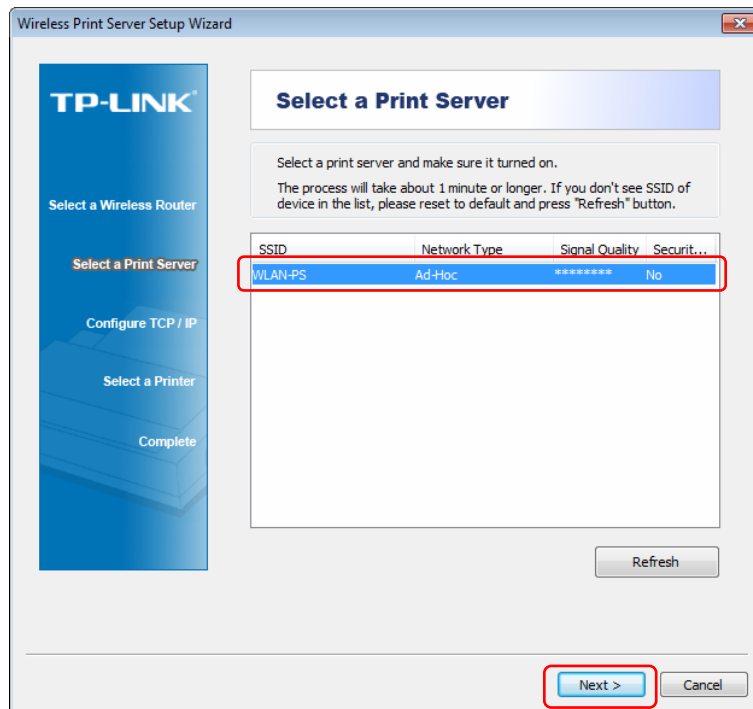

Figure 3-6
- On the **Select a Print Server** screen as shown in Figure 3-6, select the print server and click **Next**.